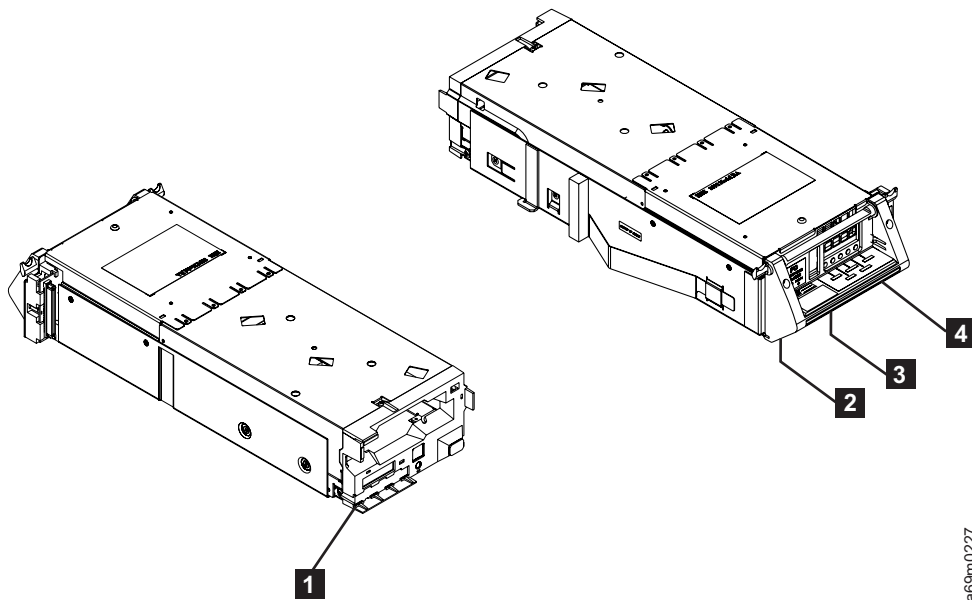

Figure 69. Removing or Replacing a Drive Canister Assembly - 3592 Fibre Hot Swap
5. Refer to Figure 69. Unplug the fibre cable.
- If a logical library label (see **4** in Figure 69) is attached to the old drive, remove it from the old drive and attach it to the new drive.